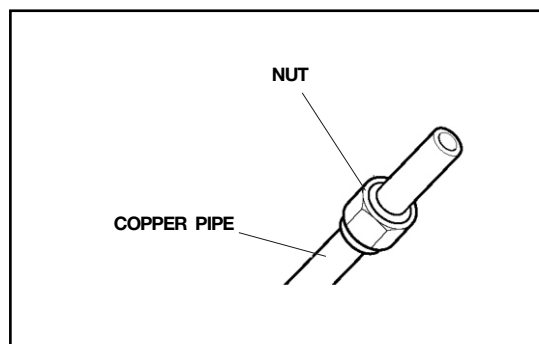

fig.14
3. Fit the connection manifolds (fig. 14).